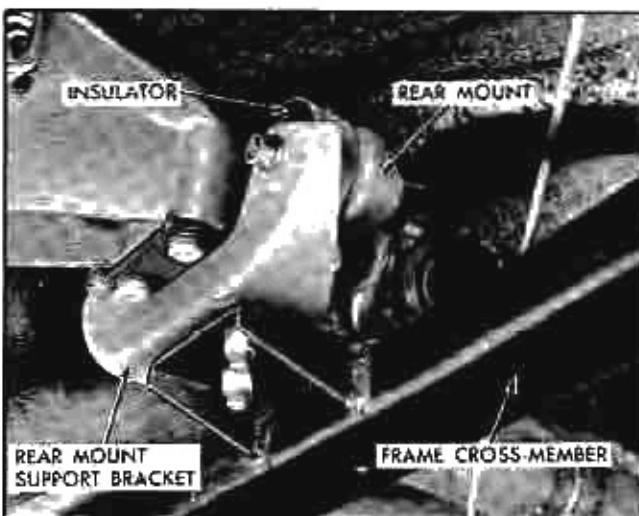

Fig. 38 Rear Mount
18. Remove 2 rear mount support to frame crossmember nuts and raise transmission so studs clear the crossmember (Fig. 38).